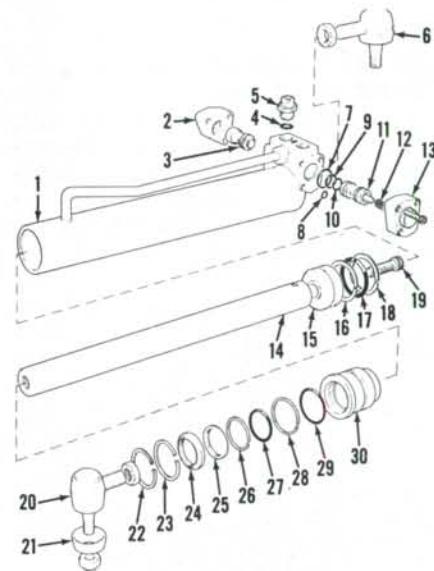

Fig. 60—Exploded view of typical side mounted steering cylinder used on some two-wheel drive tractors.
67. OVERHAUL. Clear cylinder of oil as necessary by moving piston rod through its full stroke. Remove two snap rings (22 and 23—Fig. 60), then pull rod (14), piston (15) and sleeve (30) from cylinder (1). Remove bolt (19) and piston (15). Remove and discard all "O" rings, backup rings, seal rings and scraper seal.